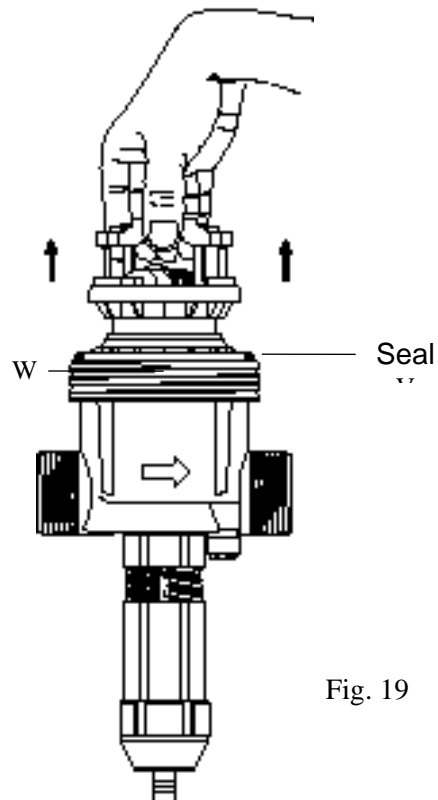

Fig. 19
- Carefully remove the piston assembly holding it upright (**Fig. 19** - page 22).
- Lift out the piston assembly taking care to hold it upright (**Fig. 19**) so that the plunger seal (**Fig. 22 - Rep. Y**) engages correctly in the sleeve.
If the seal does not engage in the sleeve, refer to the procedure for dismantling the dosing assembly (**Fig. 19**).
- Empty the body by turning upside down (**Fig. 19 - Rep. W**).